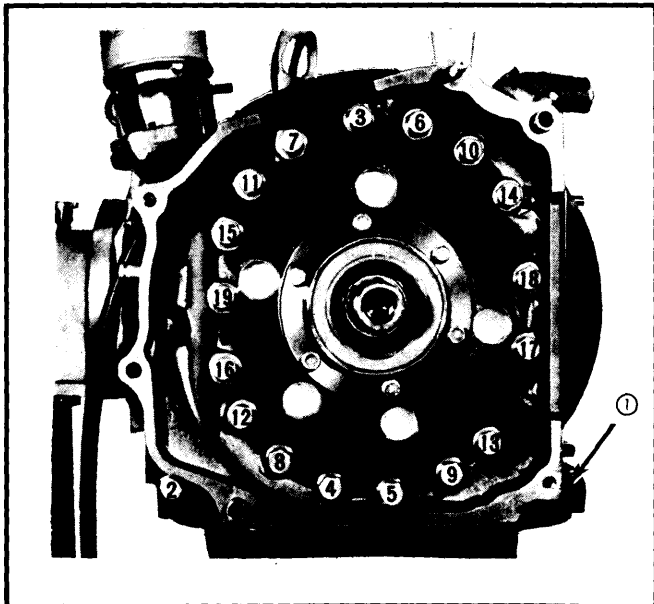

Fig. 3 Loosening Sequence of Tension Bolts
5) Remove tension bolts on rear housing in sequence shown in Fig. 3 by loosening in 2 or 3 steps. Lift rear housing off shaft and remove any seals stuck to rotor sliding surface, placing them back in original positions. Remove seals and "O" rings from rear side of rear rotor housing.